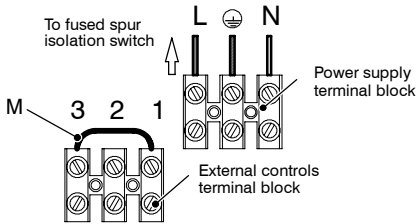

Fig. 6.12
- 6 Connect the electrical supply flexible cord coming from the fused spur isolation switch to the power supply terminal block of the boiler (Fig. 6.12) keeping the same connections for the live (brown wire) and the neutral (blue wire). External 3 A fuse or fused plug with same current rating is recommended.
**When connecting any type of external control, the link M in Fig. 6.12 must be removed.**